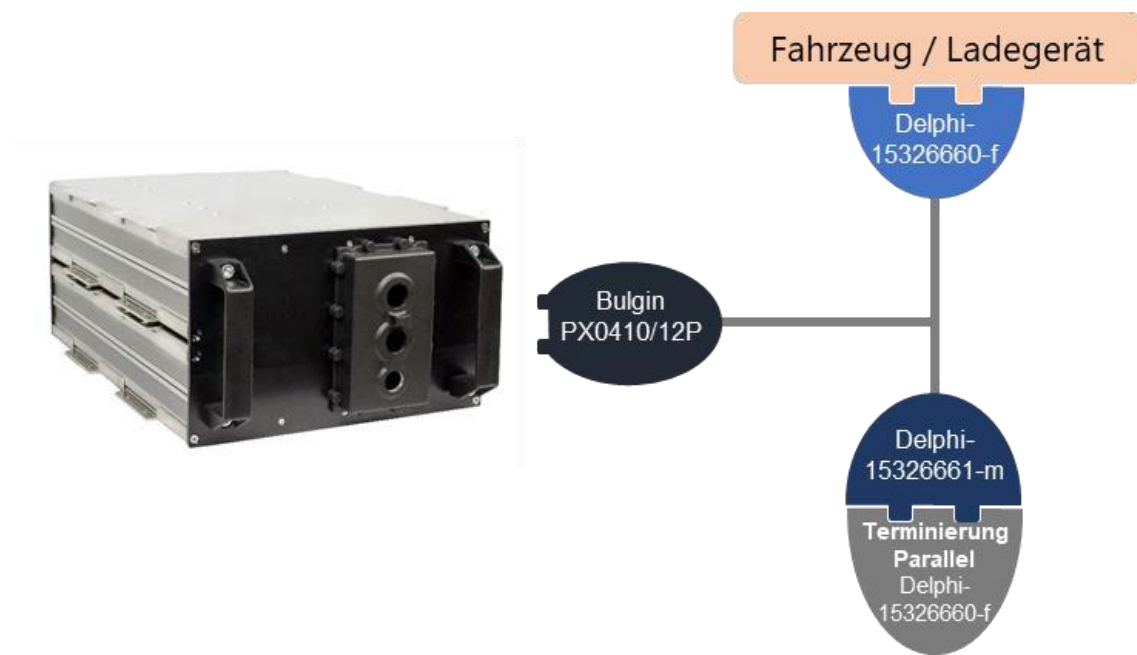
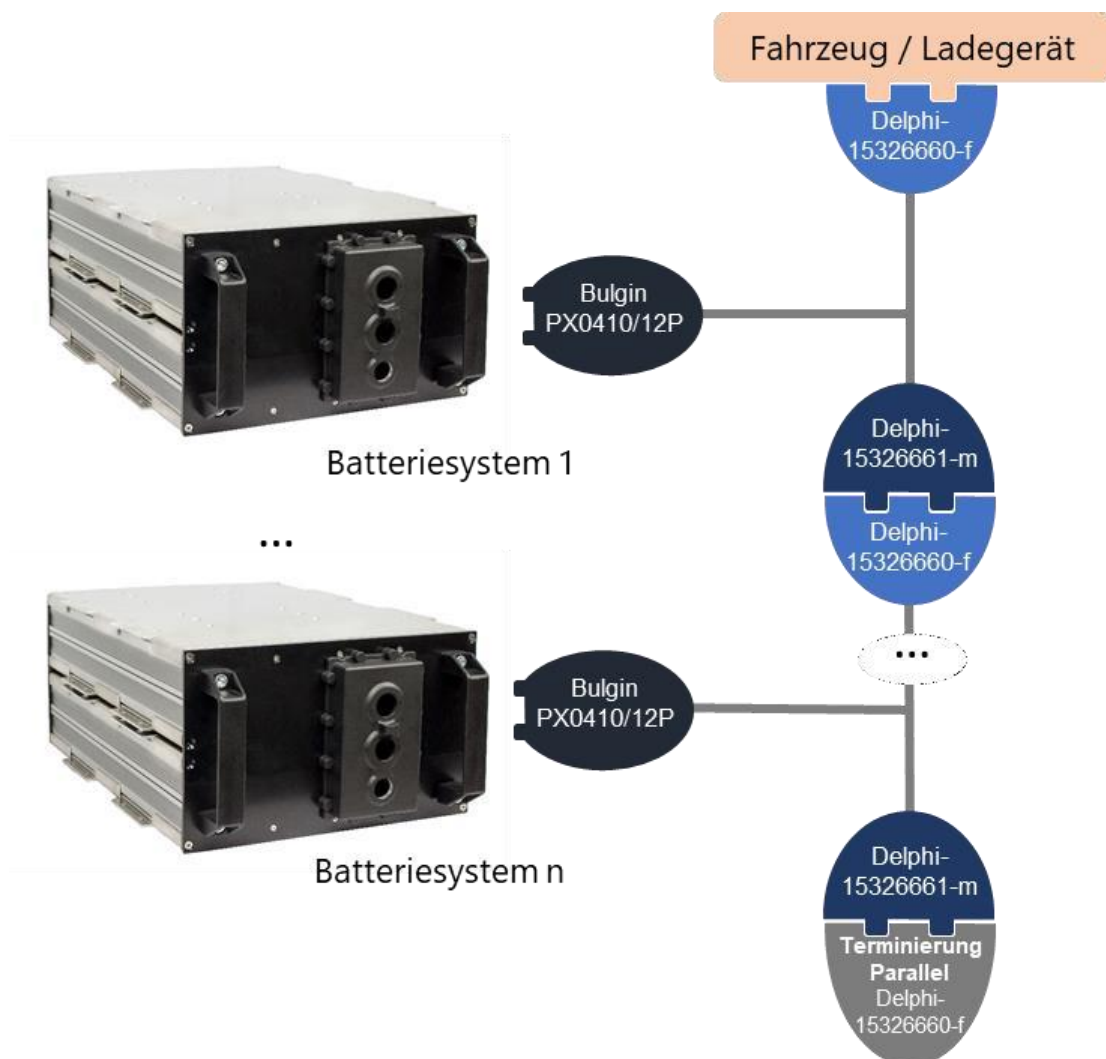

Figure 2: Communication cabling in stand-alone of a single battery system
Figure 3: Communication cabling in parallel operation of n battery systems, where $2 \leq n \leq 4$.
The following two figures show the two possible interconnection options of the battery systems. The circuitry for the stand-alone is shown in Figure 2. If several battery systems are to be connected in parallel, the communication must be wired according to Figure 3. In the parallel operation variant, the first battery system supplies the electronics of all systems.
- Figure 2 shows the cabling of the system in single mode.
- The drive connector of the first battery system is connected to the vehicle/charger as in Figure 3.
- Figure 3 shows the wiring of the entire system with n individual battery systems in parallel operation.